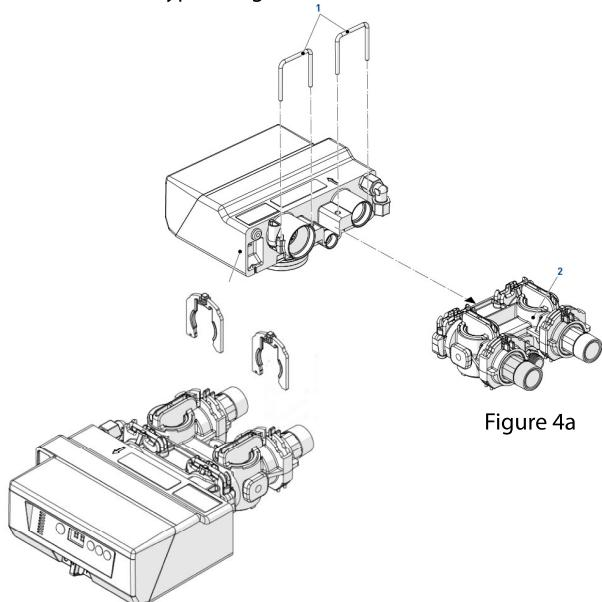

Figure 4a
5. Connect the bypass to the valve body (Figure 4a), and in/out connections to the bypass (Figure 4b).